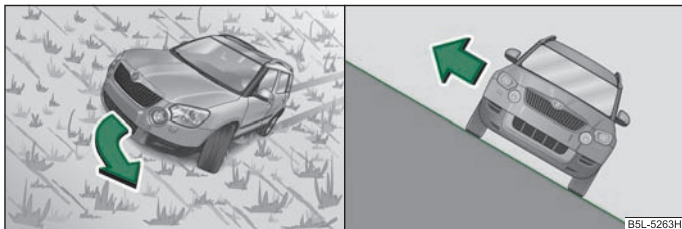

Fig. 162 Steer and maintain your trajectory/in direction to exit - facing uphill
If there is a risk your vehicle may tilt, steer immediately in direction of dip ⇒ fig. 162 and lightly depress the accelerator. The centre of gravity of the vehicle should be as low as possible. Distribute the weight of all the occupants of the vehicle evenly. Taller and heavier people should be seated on the raised side of the vehicle. The luggage on the roof should be removed and secured, as the vehicle could tilt by a sudden shifting of the luggage.
If the vehicle comes to a standstill at a steep angle on a hillside and you and your passengers must exit the vehicle, then all the occupants should exit on the side facing up the hill ⇒ fig. 162 on the right.
- Before you drive at an angle on a hillside ⇒ fig. 162, make sure that you can steer and maintain your trajectory. If this is not possible, choose a different path. If you drive at an angle on a hillside and there is a risk your vehicle may tilt, steer immediately downhill on your trajectory and lightly depress the accelerator. ▶
- If the vehicle is stationary on a hillside with a too great angle of lateral inclination, neither you nor your occupants must exit the vehicle through the doors facing downhill. This can lead to a shift of the overall centre of gravity. The vehicle can tilt or roll over and then roll down the hillside. This can lead to serious injuries. To avoid this, you and your occupants must exit the vehicle only on the side facing uphill ⇒ fig. 162.